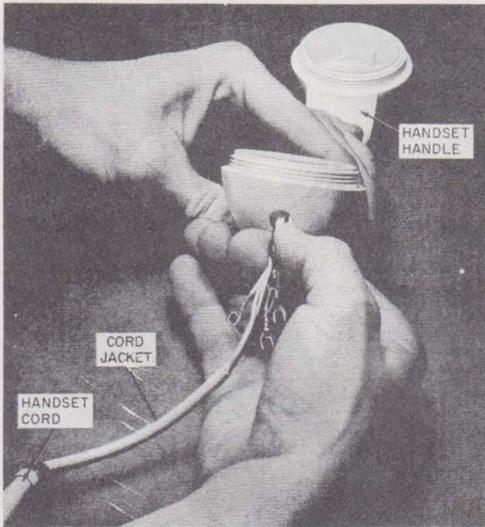

Fig. 10A—Handset Cord Replacement
- (1) Fold back the spade-tipped conductors over cord jacket ahead of grommet, feed through hole at end of handle (transmitter end), shown in Fig. 10A.